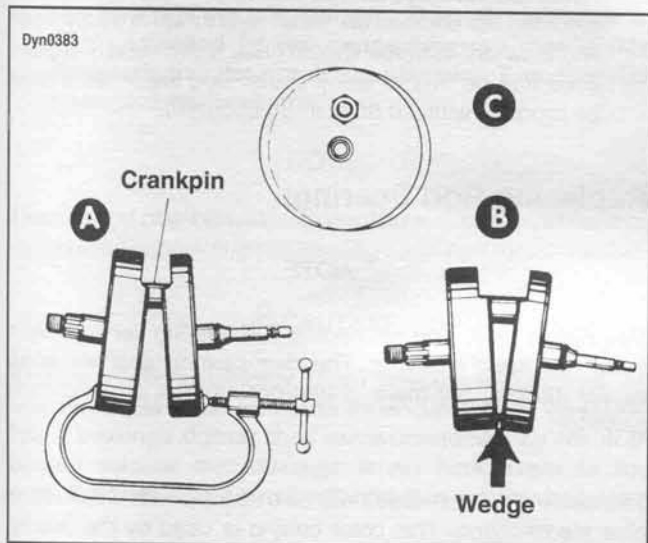

Figure 3-74. Types of Flywheels Misalignment
3. See Figure 3-74. Flywheel may be out of true three ways, A, B, or C, or a combination of two of the three ways.